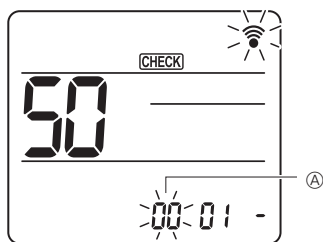

Fig. 15-2
Press the **[↓]** button to set unit number ①. (Fig. 15-2)